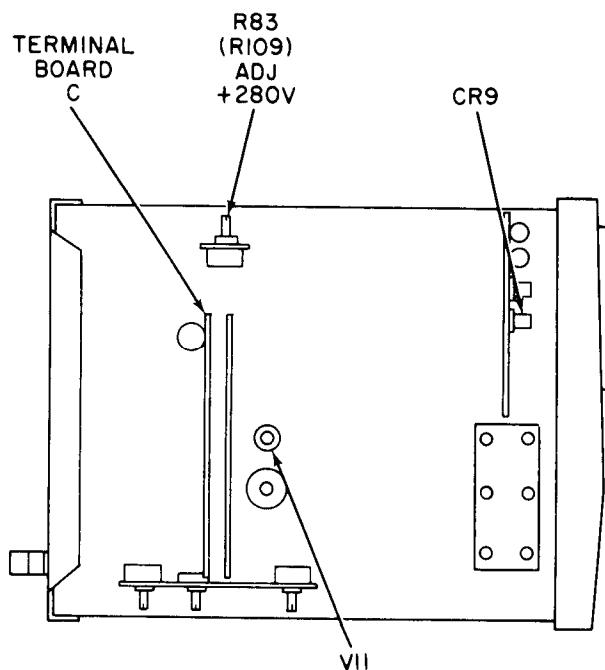

Figure 3. Dc milliammeter - left-side view.
- (1) Connect multimeter positive lead to any red lead on TERMINAL BOARD C (F) (fig. 3) and negative lead to chassis ground. If multimeter does not indicate between +274.4 and +285.6 (+266 and +278) V dc, perform **b** below.
- (2) Connect multimeter positive lead to pin 2 of V11 (fig. 3) and negative lead to chassis ground. Multimeter will indicate between +11 and +13 Vdc.
- (3) Move positive lead to anode of CR9 (fig. 3). Multimeter will indicate between -6.0 and -8.0 V dc.
- b. Adjustments.** Adjust ADJ +280V, R83 (ADJ +272V, R109) (fig. 3) for +280 (+272) Vdc indication on multimeter (R).